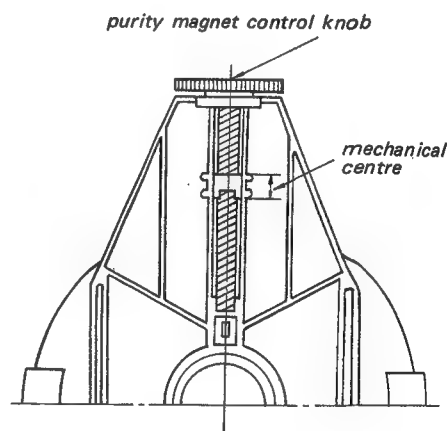

Fig. 3-1.
3. Set the purity magnet control to the mechanical centre to obtain minimum magnetic field as shown in Fig. 3-1.